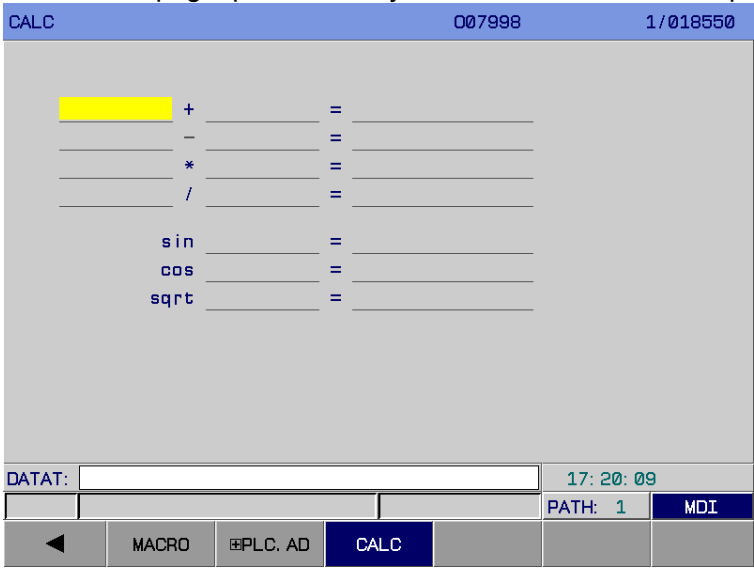

Fig. 3-9-12
8. CALCULA page In <HELP> page, press soft key 【CALCULA】 to enter this page. See fig. 3-9-12: